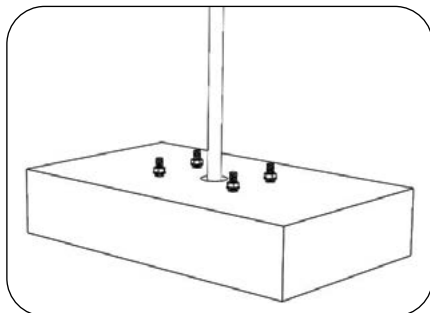

Figure 20
2. Install 4 fixing bolts M10x120 (Figure 20) in the holes made and fix them for make sure there is a height of 15 ~ 25mm.